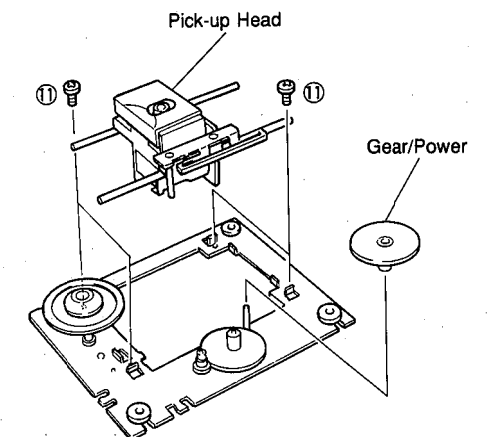

Fig. 6
- Pull out the Gear/Power as shown in Fig. 6.
- Remove 4 screws (11) and then remove the Pick-up Head as shown in Fig. 6.